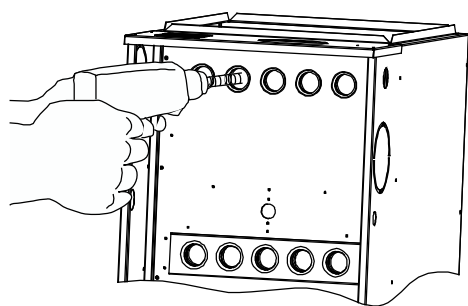

Fig. 34 - Cleaning Heat Exchanger Cell
- (2.) Insert brush end of cable into the outlet opening of cell and slowly rotate with drill. DO NOT force cable. Gradually insert cable into upper pass of cell. (See Fig. 34.)